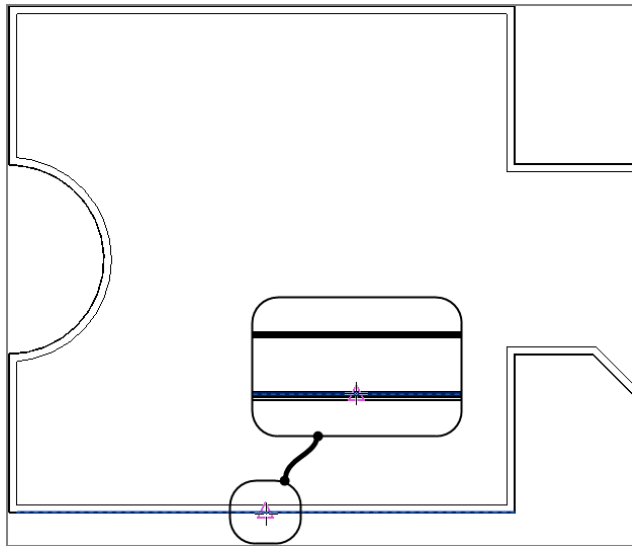

FIGURE 2.18: Adding the new walls requires picking the midpoint of this wall. Make sure Offset is set to 15'-0" (4500mm) on the Options bar.
8. Pick the midpoint of the south wall, as shown in Figure 2.18.